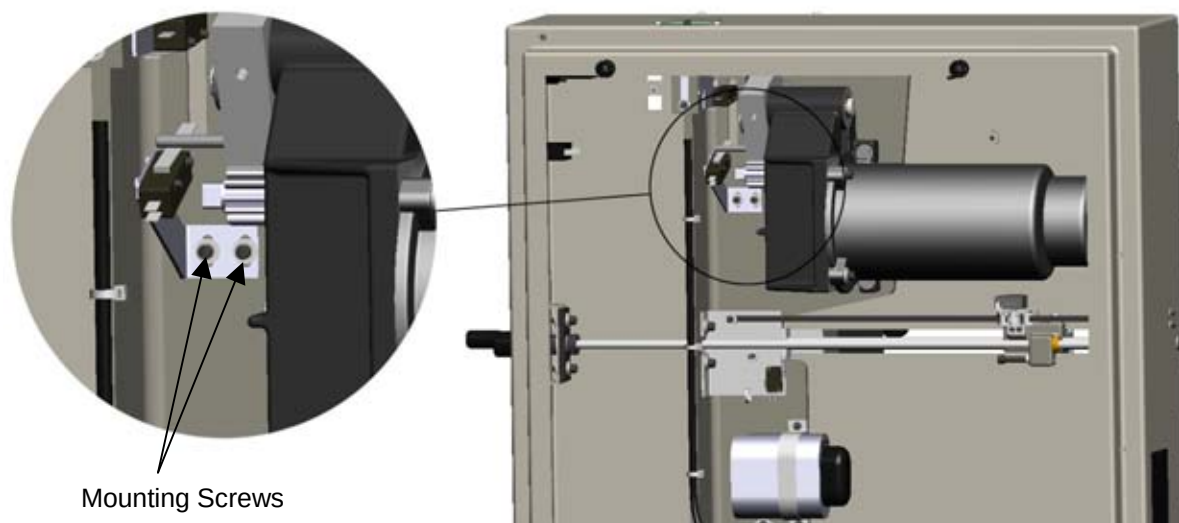

Figure 16
4. Loosen bracket mounting screws (Figure 16, page 20), and slide bracket such that mounting screws become located in the center of the slots. Then tighten screws, and check to make sure screws mounting switch are tight also.